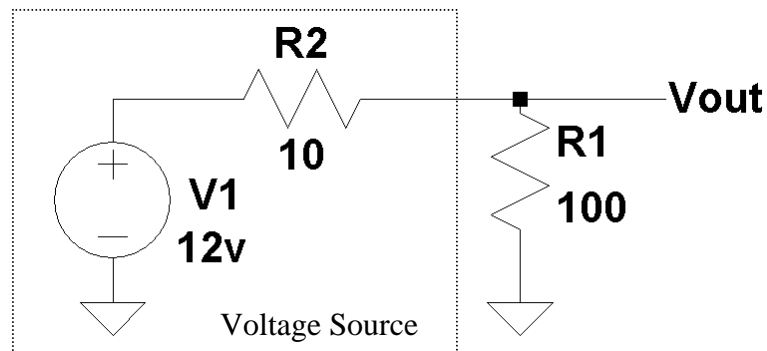

Figure 1: An example of a 12-volt voltage source with an internal resistance of 10 ohms.
Consider the following circuit given in Figure 1. With R_1 equal to 100 ohms V_{out} is equal to 10.9 volts. If R_1 is changed to 10 ohms, then V_{out} is equal to 6 volts. V_{out} depends on the load resistor R_1 . In other words, the output voltage decreases as the load current (the current through R_1) increases. In many applications it is desirable to have a constant voltage source that is independent of load current. For example, the $+V_{cc}$ and $-V_{cc}$ input to a typical op-amp circuit should remain constant independent of the op-amp current.
From Equation (5) V_{out} does not depend on the load current, as was the case for the circuit given in Figure 1.